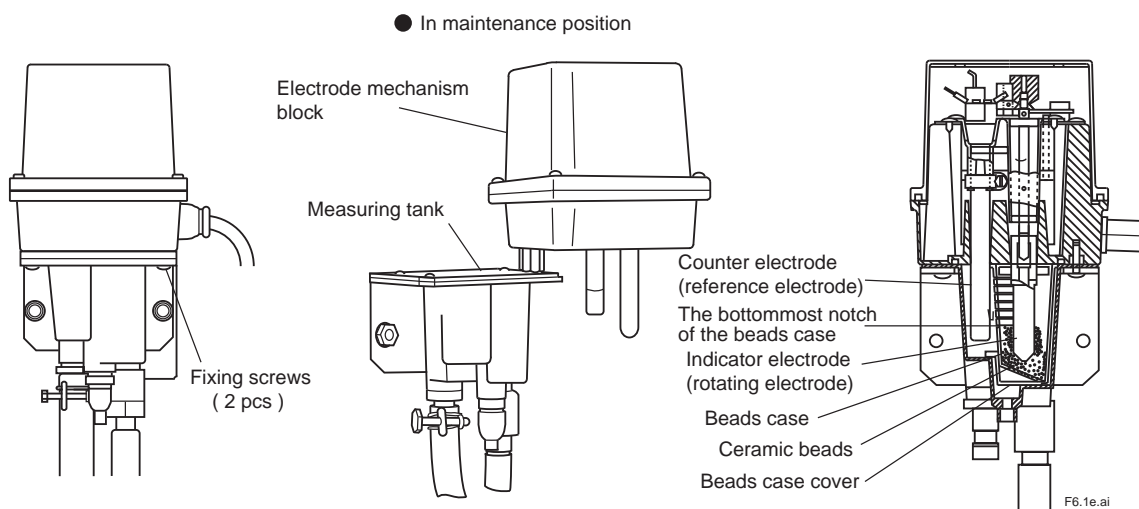

Figure 7.1 Electrode Mechanism Block in maintenance
- (1) Before lifting the electrode mechanism block from the measuring tank, stop the electrode rotation. In <CELL> mode of Operation Level ("CELL.ON" displayed in message display), press the key. Stopping the electrode rotation (turning drive motor power OFF) results in the "CELL" display disappearing.
- (2) Place the electrode in its maintenance position (see Figure 7.1) and start it rotating again. Loosen the two screws that fix the electrode mechanism block to the measuring tank, and lift it vertically to remove it from the tank. After resting the block in its maintenance position, pressing the key in <CELL> mode restarts electrode rotation, and the "CELL" display is lit.